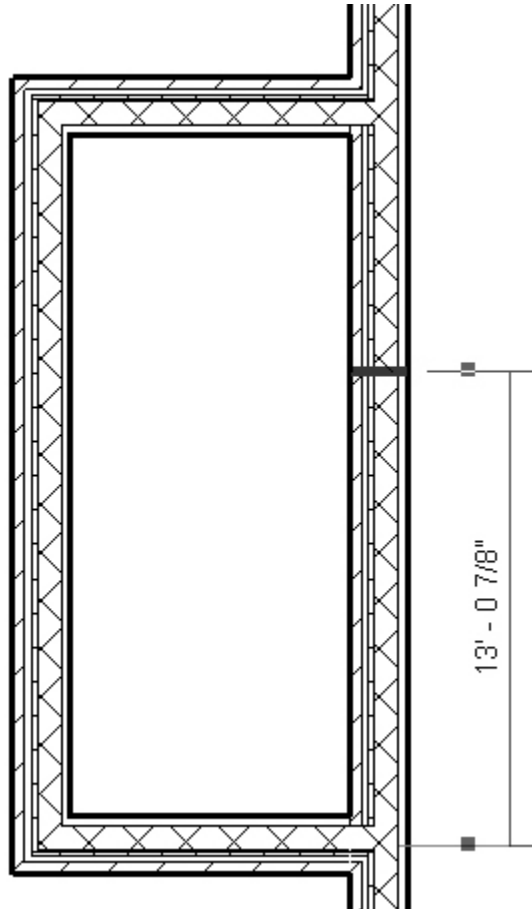

Figure 3-3.5 Split tool
17. Pick somewhere in the middle of the wall (Figure 3-3.5).